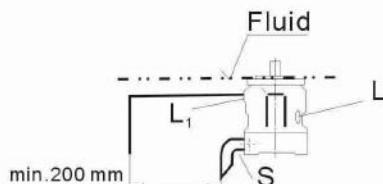

Fig.1
- a) If the minimum fluid level is equal to or above the pump mounting face close port "L₁" plugged, leave ports "L" and "S" open; L₁ piped and recommendation S piped (see Fig.1).